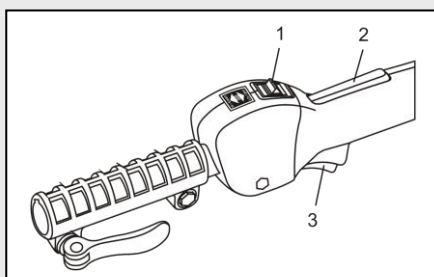

Fig. 5
1. Pull the HI/START switch (1) back to the LO/OFF position (Fig. 5).
2. Squeeze and hold the lockout switch (2) with the palm of your hand.